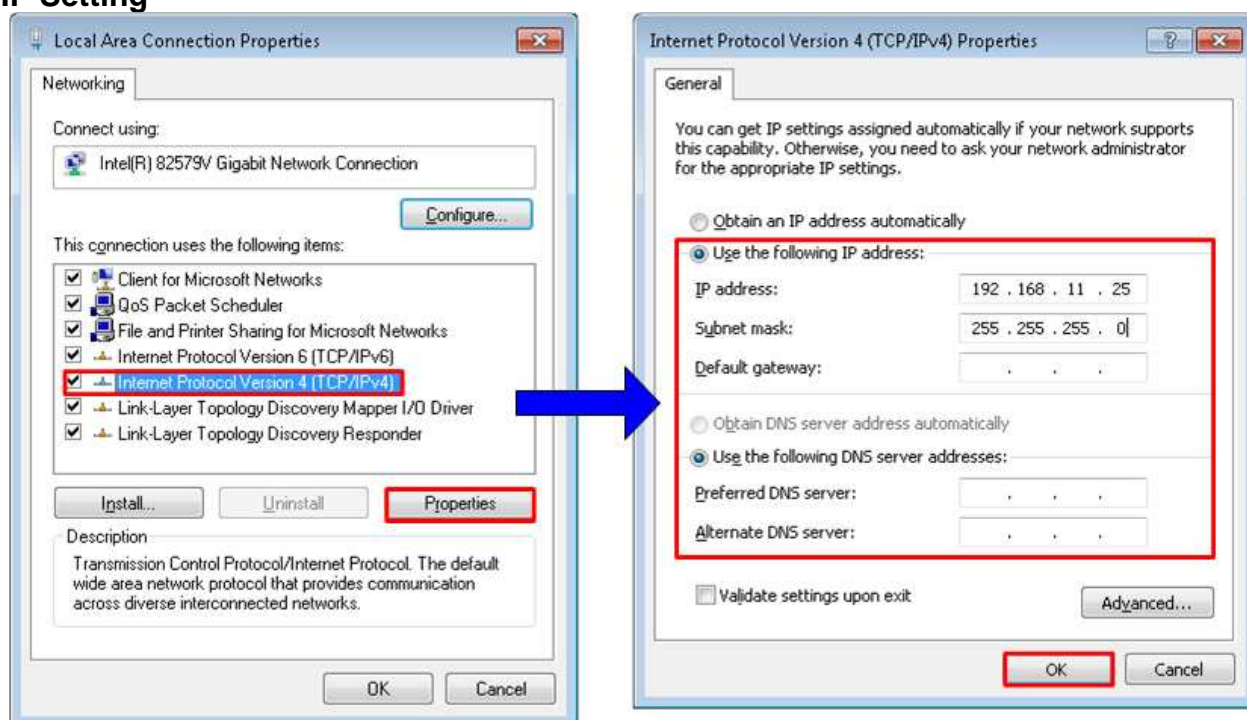

Figure 3-1 IPv4 Setting
- Open Local Area Connection Properties of Ethernet test connection, as shown in left window of Figure 3-1.
- Set IP address = 192.168.11.25, and Subnet mask = 255.255.255.0, as shown in right window of Figure 3-1.